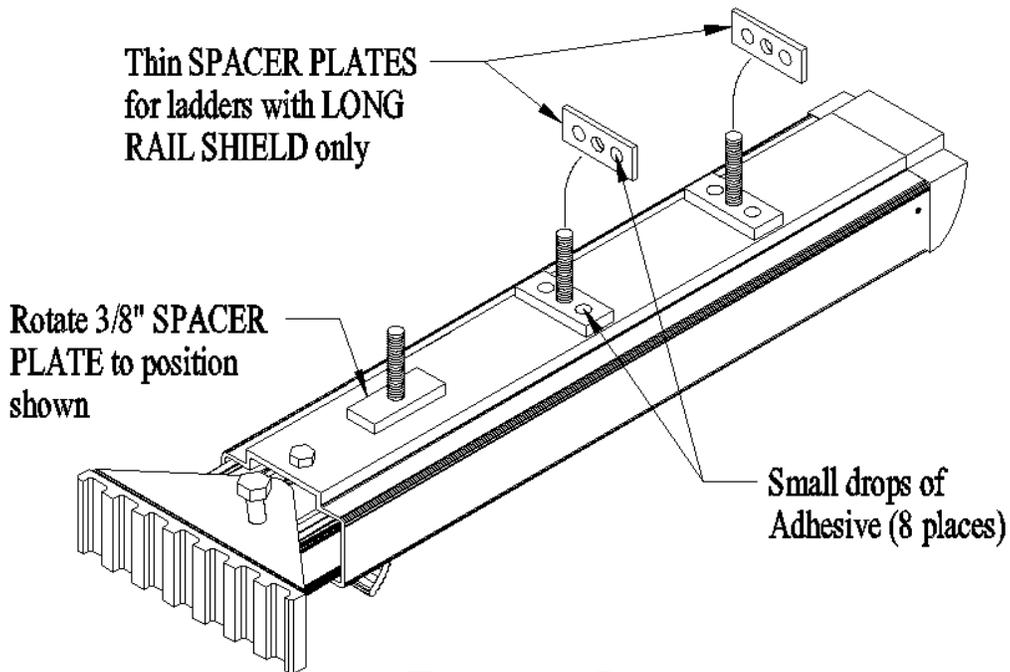
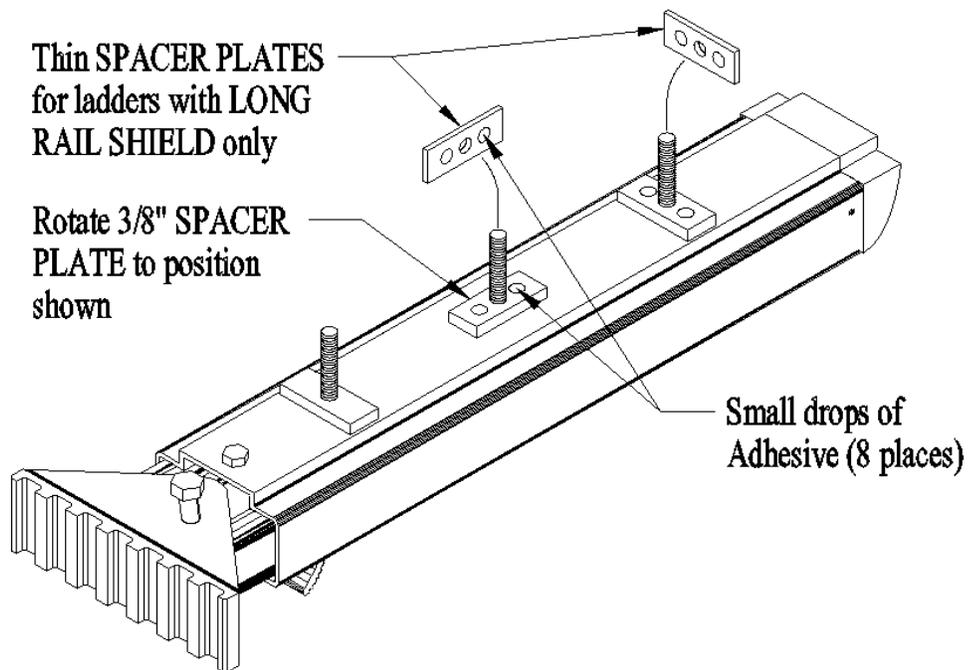

Figure 3-5
Figure 3-6
5. “**Slowly**” rotate the appropriate, pre-installed 3/8” thick spacer plate **ON BACK OF LEVELER** a full 90 degrees using a large pair of pliers (see **Figure 3-5** for Werner and similar and **Figure 3-6** for Louisville and similar ladders). Vice Grips work best for this step. Grip the long sides of the spacer plate for best results.
6. Open the Levelok kit provided and locate the packet of metal adhesive and thin aluminum spacer plates (1/8” x 3/4” x 2”) provided. Place small drops of adhesive on one side of each plate, on either side of the pre-drilled hole. Next, with the glue side down, slide the spacer plates onto two upper-most, mounting studs and press securely against the pre-installed, 3/8” thick spacer plates. Maintain alignment between the mating parts (see **Figure 3-5** for Werner and similar and **Figure 3-6** for Louisville and similar ladders). Hold for 5-10 seconds.